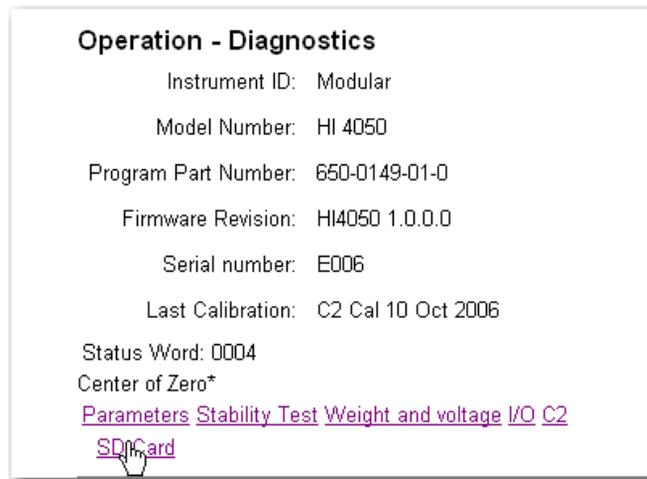
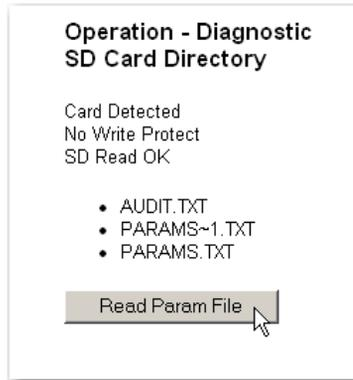

FIG. 426 DIAGNOSTICS/SELECTING SD CARD
FIG. 427 SD CARD DIRECTORY/READ PARAM FILE
- Step 1. Click on “SD Card”. (See Fig. 426) The SD Card page appears indicating the Write Protect status and listing the base directory with the files where the non-volatile memory is located for the HI 4050. (See Fig. 427)